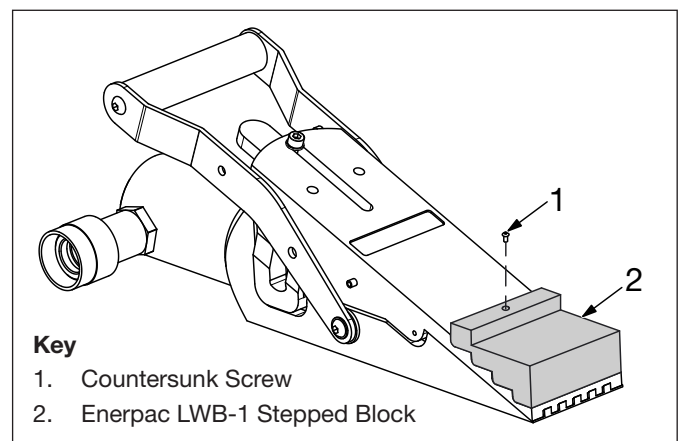

Figure 6, Enerpac LWB-1 Stepped Block
2. Mount the stepped block on the lifting jaw and secure it with the countersunk screw, as shown in Figure 6.